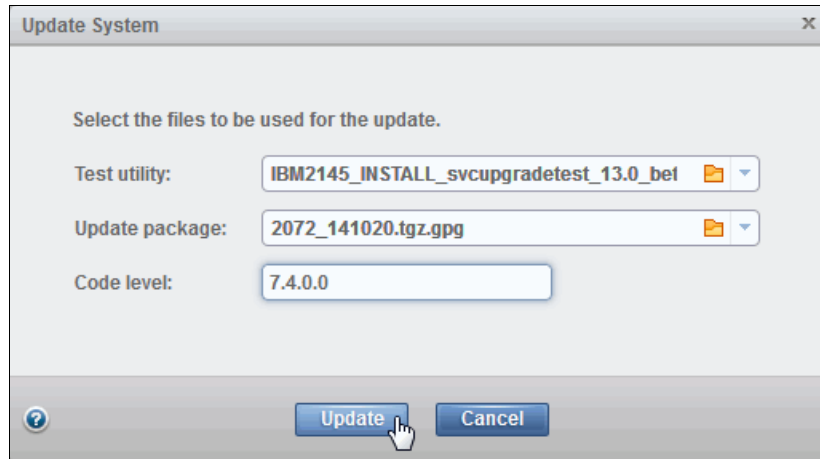

Figure 11-26 Select Test utility and software Update package
3. Select the **Test utility** and **Update package** files by clicking the folder icon in the corresponding input field, and then enter the version of the code level that you are updating to, as shown in Figure 11-26.